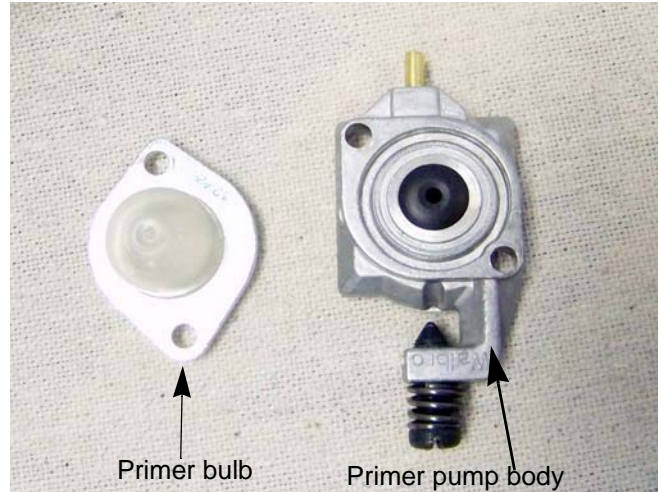

Figure 5.28
11. Inspect the primer pump body for dirt and/or varnish. See Figure 5.28.